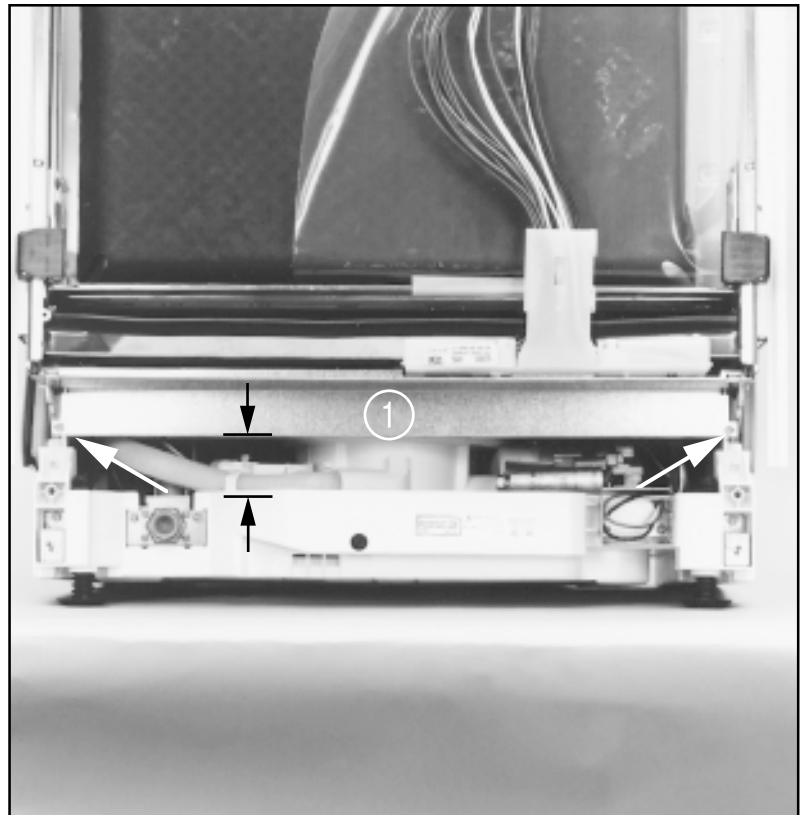
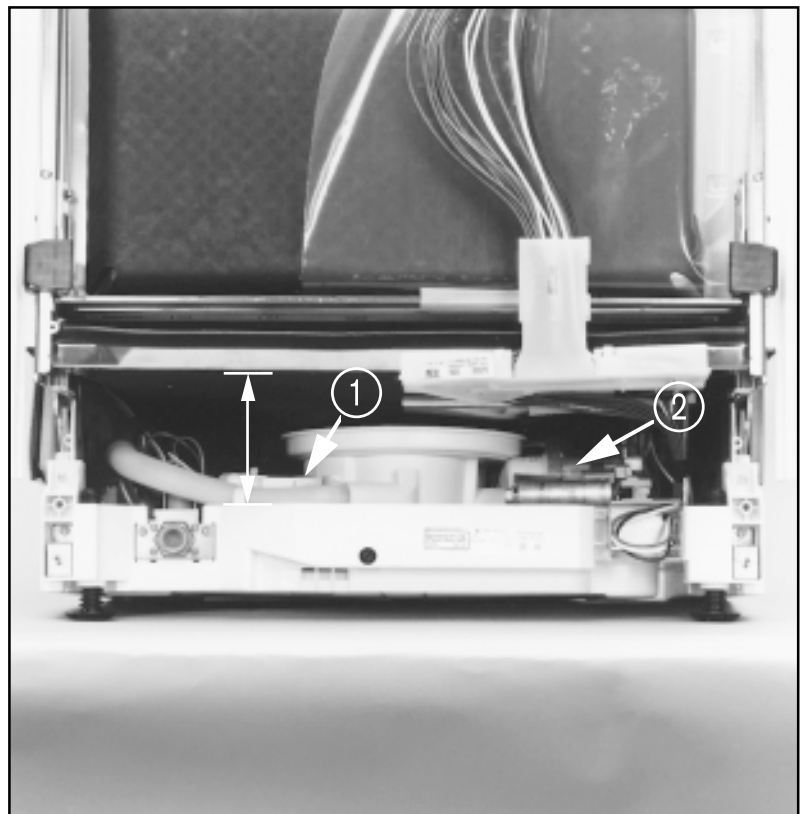

Fig. 10-7
Fig. 10-8
To remove the Lower Access Panel, Fig. 10-7, item 1, remove the two T-20 Torx screws located in the left and right corners of the panel.
As demonstrated in Figs. 10-7 and 10-8, with the Lower Access Panel removed you gain all the space required to replace the Drain Motor, Fig. 10-8, item 1, as well as allowing better visibility to the Circulation Motor Wiring, Fig. 10-8, item 2, rear components, wiring and hoses.